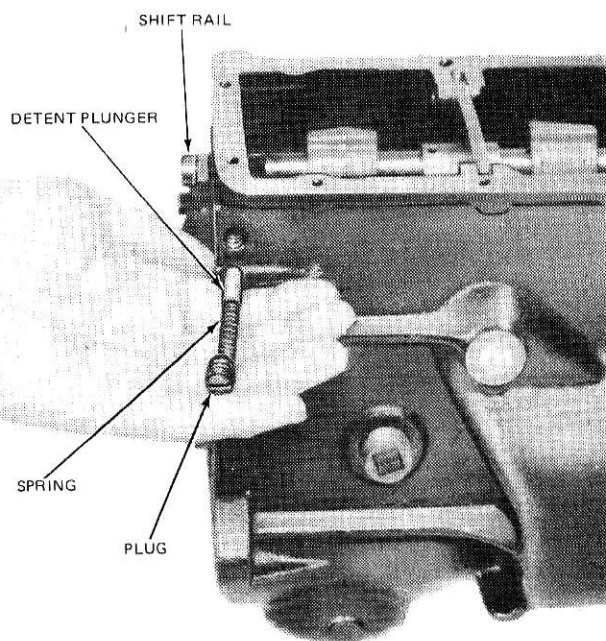

FIG. 13 Removing or Installing Shift Rail Detent Plunger
3. Remove the threaded plug, spring, and the shift rail detent plunger from the front of the transmission case (Fig. 13).